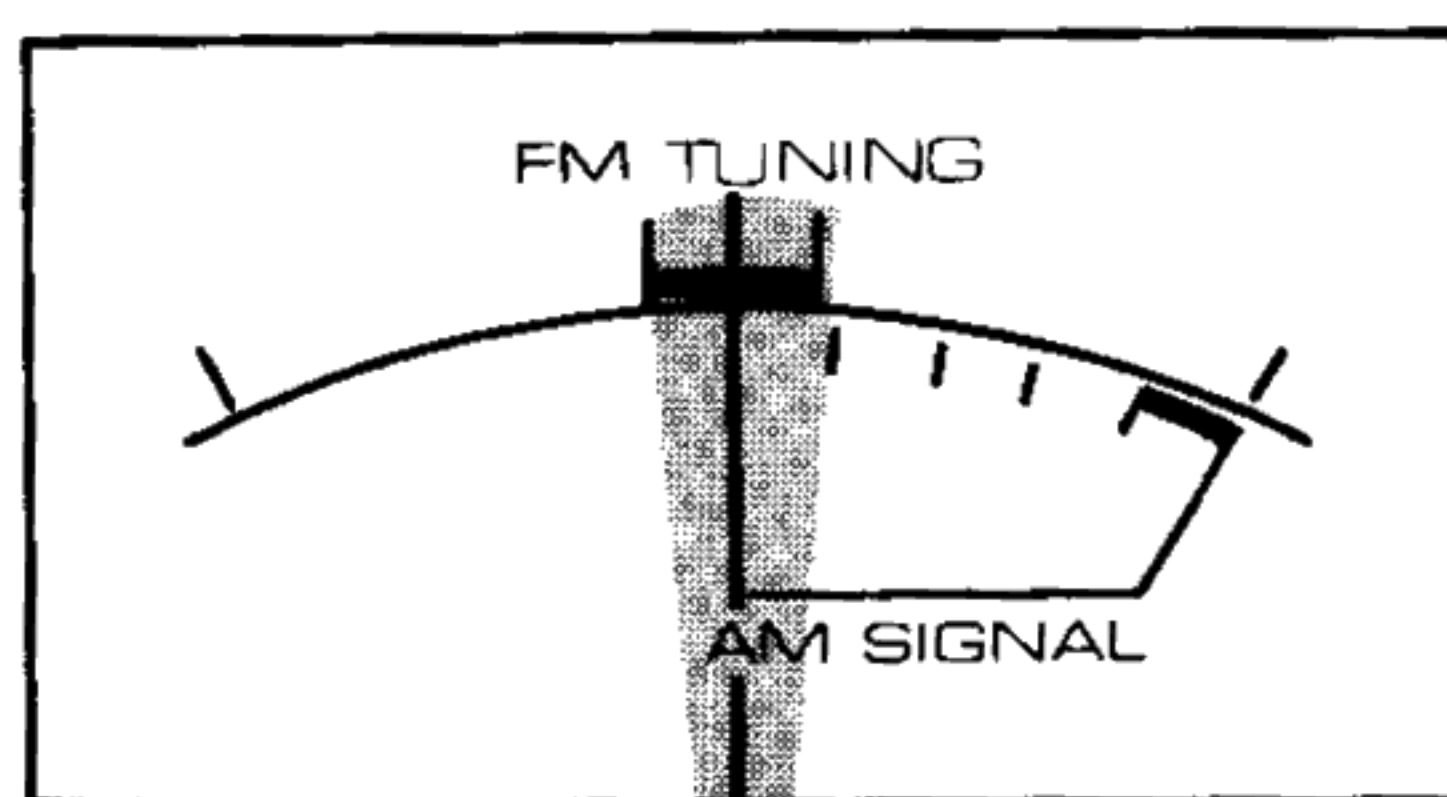

Fig. 9
2. Select the broadcasting station with the tuning knob. Adjust so that the tuning meter pointer is centered, as indicated in Fig. 9.